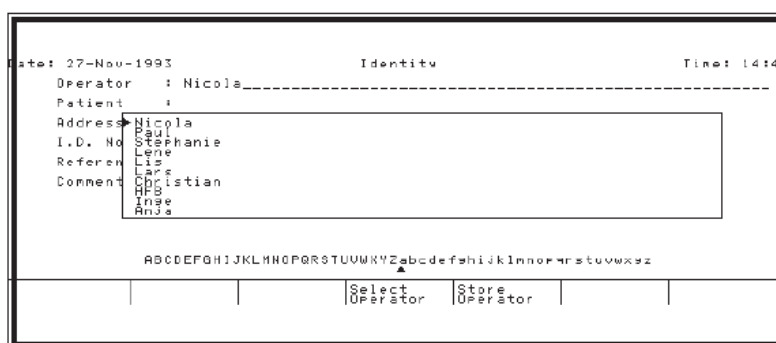

Figure 4-3 *SELECT OPERATOR.*
- Press **Softkey 4**, Select Operator, and a pop-up box appears (see Fig. 4.3). If any operator names have previously been stored, they will be listed in this pop-up box (maximum 10 names). **Softkey 5** now becomes active permitting new operator names to be stored in memory.